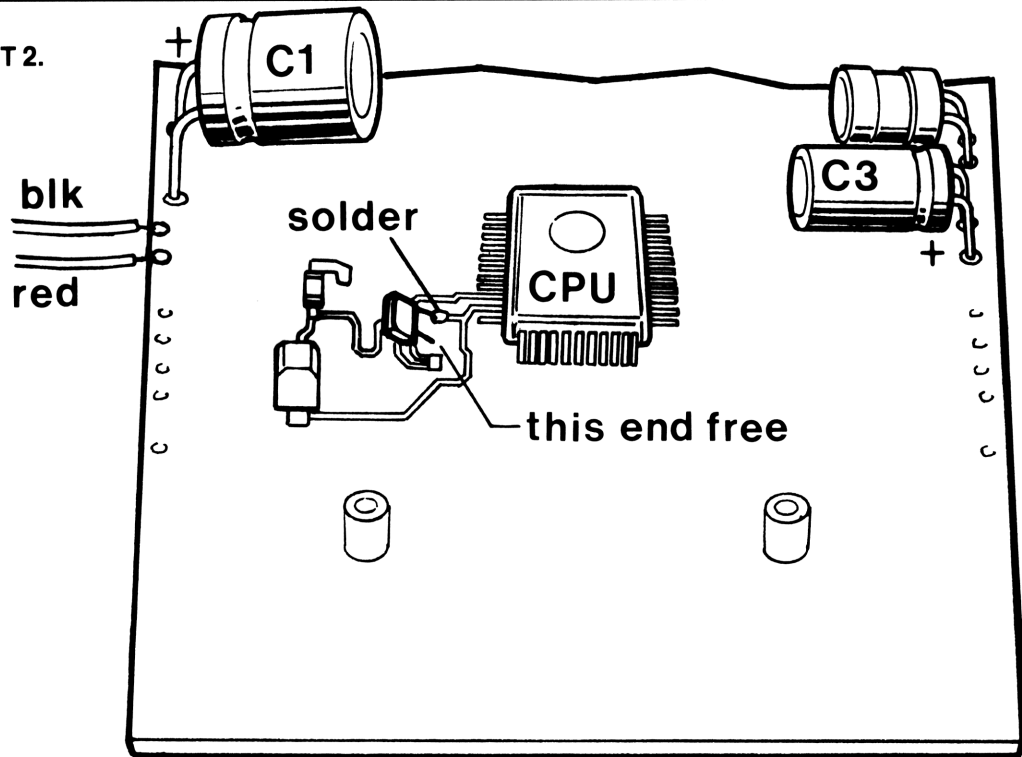

Figure 8
26. Refer to figure 8. . Solder either lead of the timing component (C4) to the []